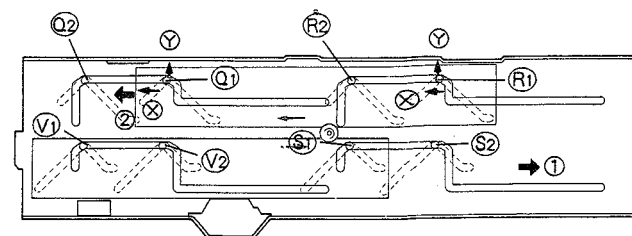

Fig. 10-9.
3. In Fig. 10-9, there is parallel movement pressing against the grooves for movement from ⑪ to ⑫, ⑬ to ⑭, ⑮ to ⑯, and ⑰ to ⑱.